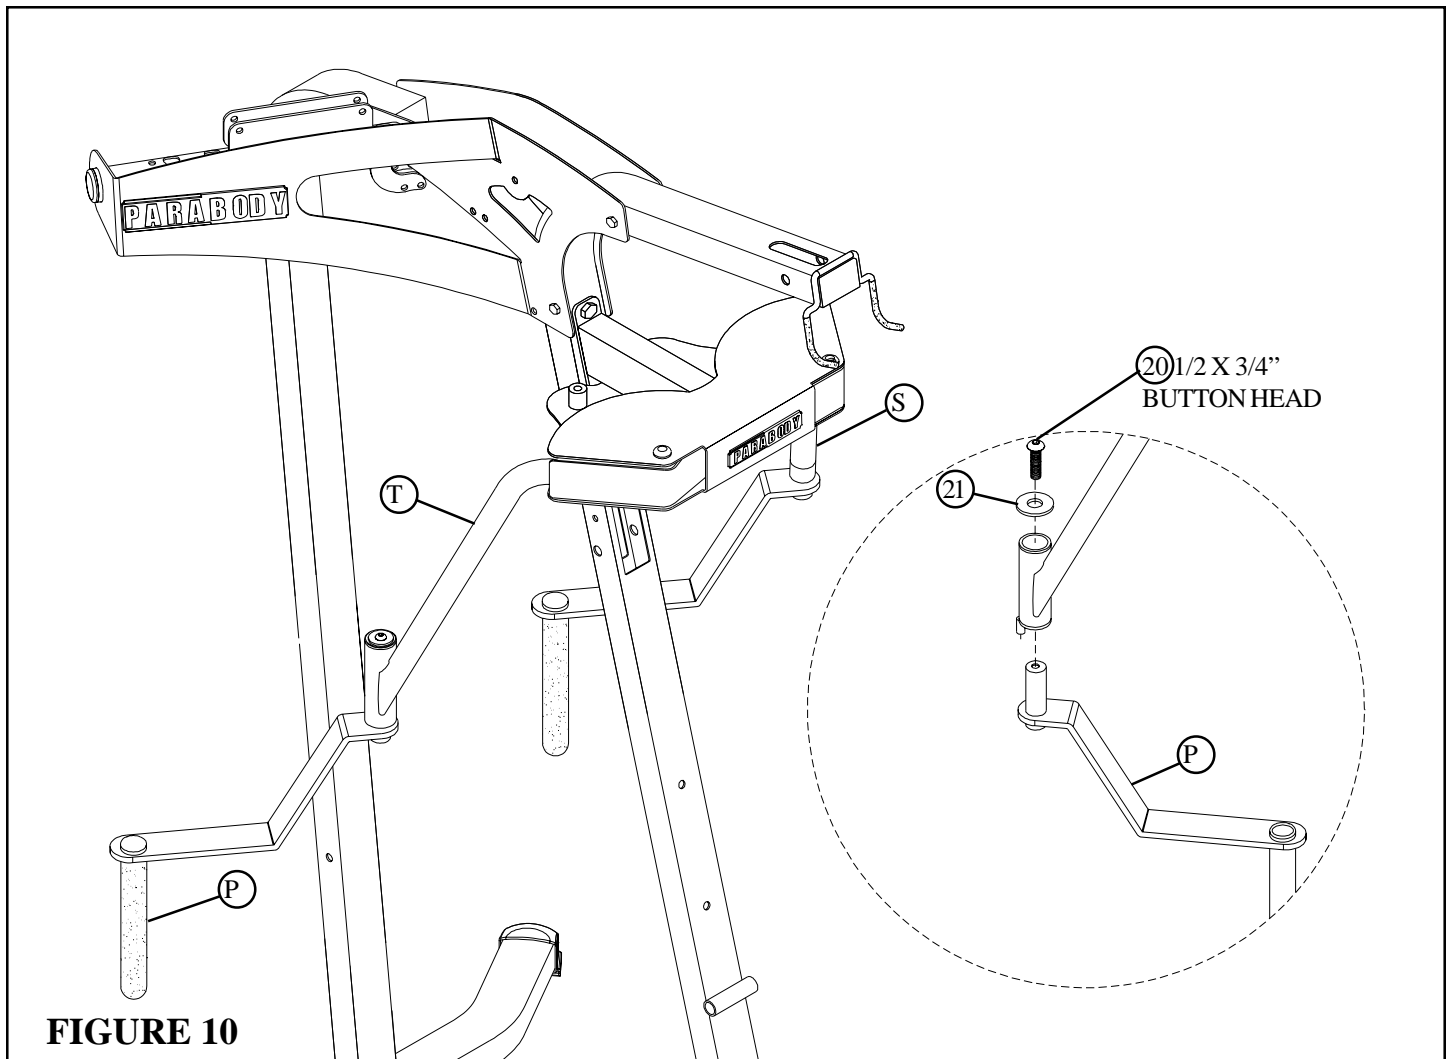

FIGURE 10
- Assemble the PEC HANDLE (P) to the LEFT PEC FLY ARM (S) using one 1/2 X 3/4" BUTTON HEAD BOLT (20) and on 1/2" WASHER (21) as shown in FIGURE 10.
- Assemble the PEC HANDLE (P) to the RIGHT PEC FLY ARM (T) using one 1/2 X 3/4" BUTTON HEAD BOLT (20) and on 1/2" WASHER (21) as shown in FIGURE 10.